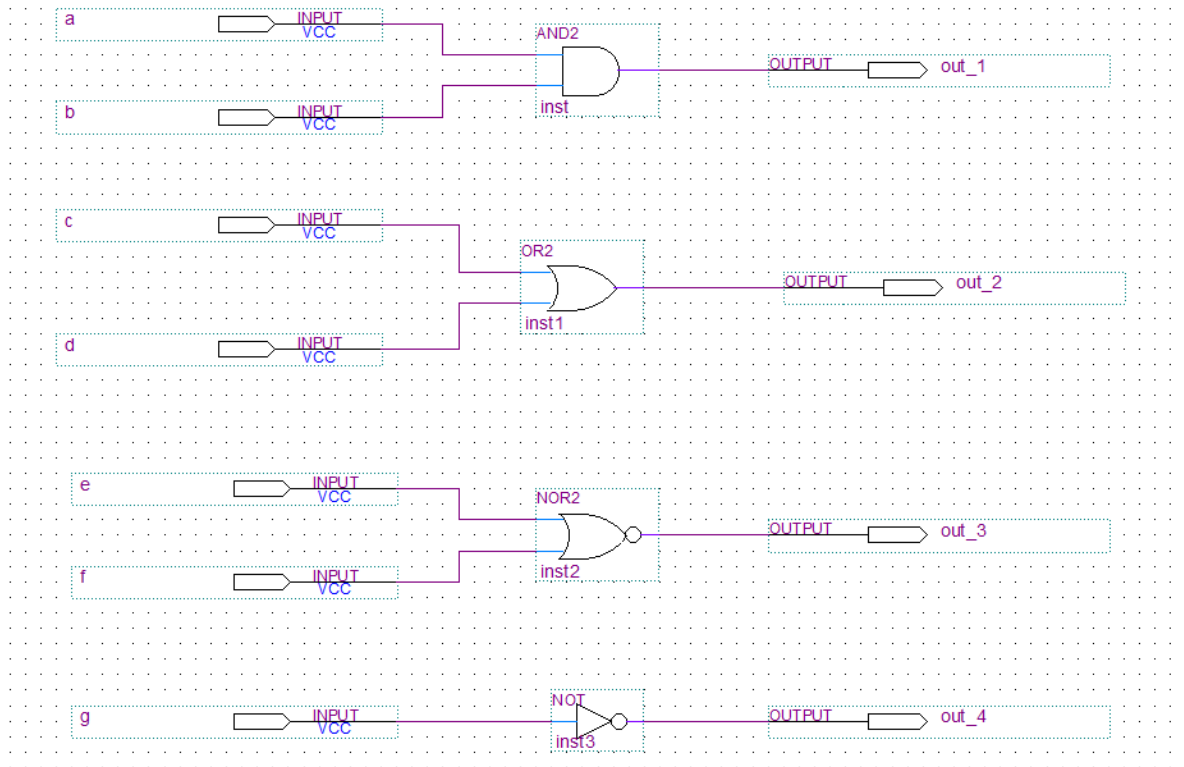

Fig 12. Exercise Schematic
2. Draft the schematic look like Fig 12.